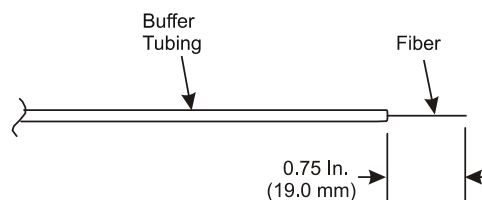

**Figure 3. Install Buffer Support on Buffer Tubing**
3. **Place Buffer Support onto Fiber** Slip the buffer support onto the buffer tube covering the fiber (Figure 3).